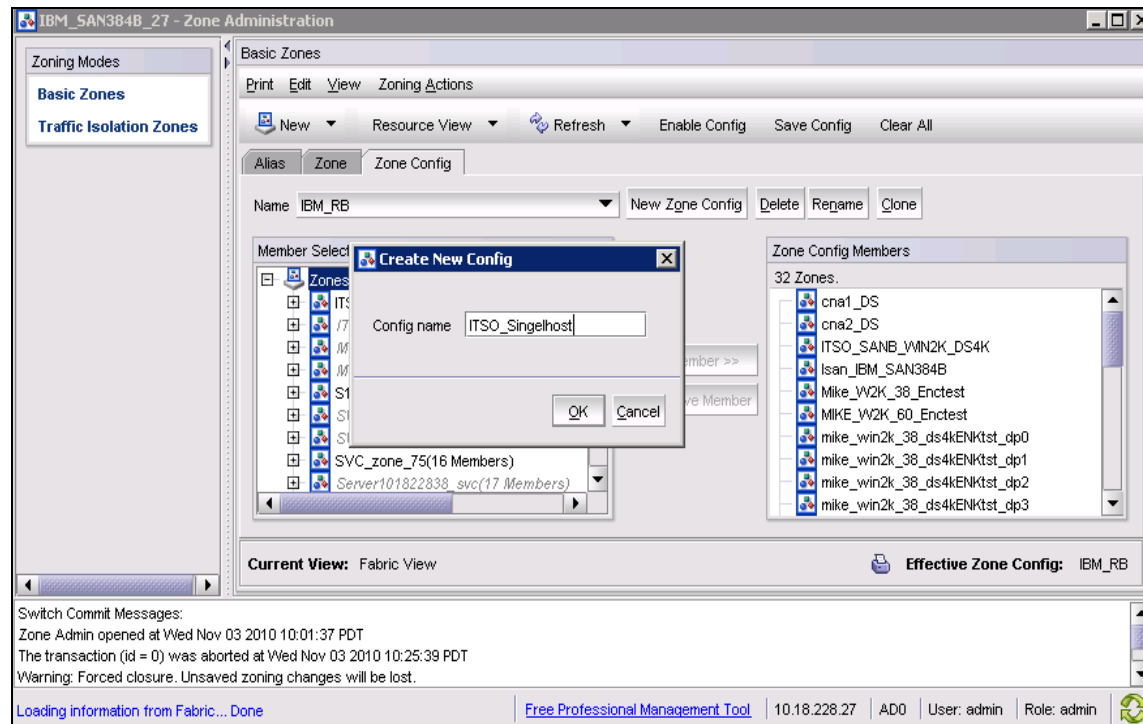

Figure 12-37 Create New Zone Config
1. Click the **Zone Config** tab, and click **New Zone Config**. The Create a New Config dialog box opens. Enter a name for the new configuration and click **OK**, as shown in Figure 12-37.